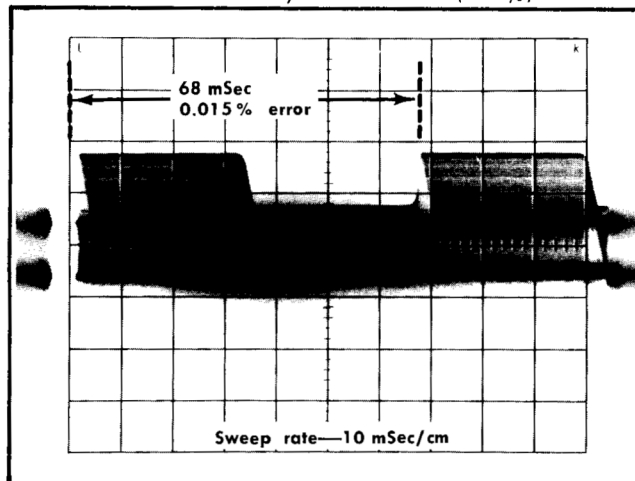

Fig. 5-3. Typical test oscilloscope display when checking Calibrator Repetition Rate.
- e. Position the trace until DC triggering occurs displaying a stable waveform. Ensure that the triggering causes the difference frequency envelope to remain stable. (See Fig. 5-3).
- e. Position the trace until DC triggering causes the difference frequency envelope to remain stable (See Fig. 5-3).